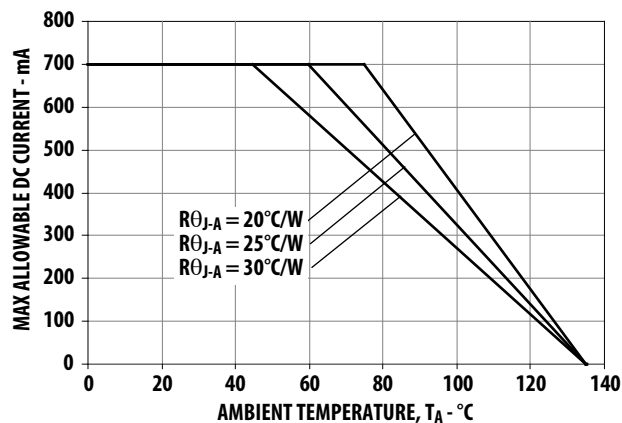

Figure 20. Maximum Forward Current vs. Ambient Temperature.
- Derate linearly based on Figure 10 for AllnGaP and Figure 20 for InGaN.